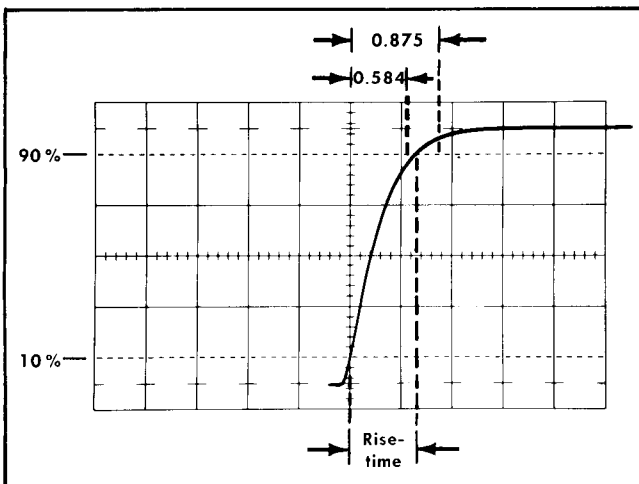

Fig. 5-7. Measuring the risetime.
d. Connect a coaxial cable from the oscilloscope TRIGGER INPUT connector through a BNC-to-UHF connector adapter (item 12) to the Type 105 SYNC OUTPUT connector.
g. Check—Risetime should be between 0.584 μ s and 0.875 μ s, as measured between the 10% and 90% levels on the rising portion of the waveform (see Fig. 5-7).